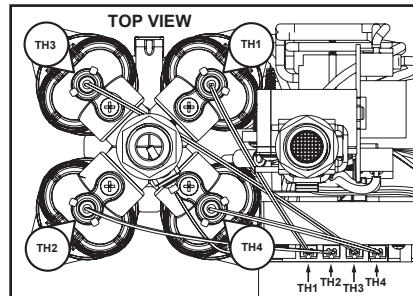

Figure 29 - Thermistor wire configuration.
**4** Unplug all the sensors and the triac(s) connectors from the control board. Use a cable tie or other method to secure the wires out of the way of the control board and chambers, to avoid possible damage. See Figure 29.